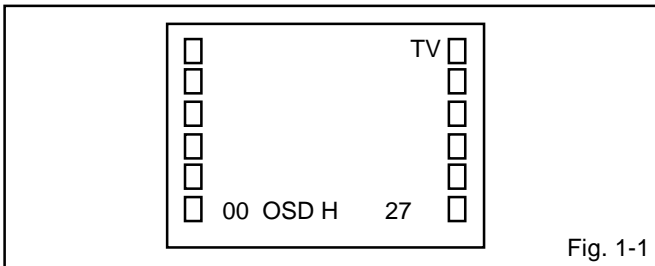

Fig. 1-1
1. In the condition of NO indication on the screen. Press the VOL. DOWN button on the set and the Channel button (9) on the remote control for more than 1 second to appear the adjustment mode on the screen as shown in Fig. 1-1.
2. Activate the adjustment mode display of Fig. 1-1 and press the channel button (01) on the remote control to select "CUT OFF".
4. Activate the adjustment mode display of Fig. 1-1 and press the channel button (12) on the remote control to select "R. BIAS".
3. Activate the adjustment mode display of Fig. 1-1 and press the channel button (03) on the remote control to select "H. PHAS".
3. Activate the adjustment mode display of **Fig. 1-1** and press the channel button **(06)** on the remote control to select "H. SIZE".
3. Activate the adjustment mode display of **Fig. 1-1** and press the channel button **(07)** on the remote control to select "V. SIZE".
3. Activate the adjustment mode display of **Fig. 1-1** and press the channel button **(08)** on the remote control to select "V. LIN".
3. Activate the adjustment mode display of **Fig. 1-1** and press the channel button **(33)** on the remote control to select "LEVEL".
4. Activate the adjustment mode display of **Fig. 1-1** and press the channel button **(31)** on the remote control to select "COR TOP".
4. Activate the adjustment mode display of **Fig. 1-1** and press the channel button **(30)** on the remote control to select "PARABOLA".
3. Activate the adjustment mode display of **Fig. 1-1** and press the channel button **(32)** on the remote control to select "TRAPEZIUM".
3. Activate the adjustment mode display of **Fig. 1-1** and press the channel button **(34)** on the remote control to select "SEP 1".